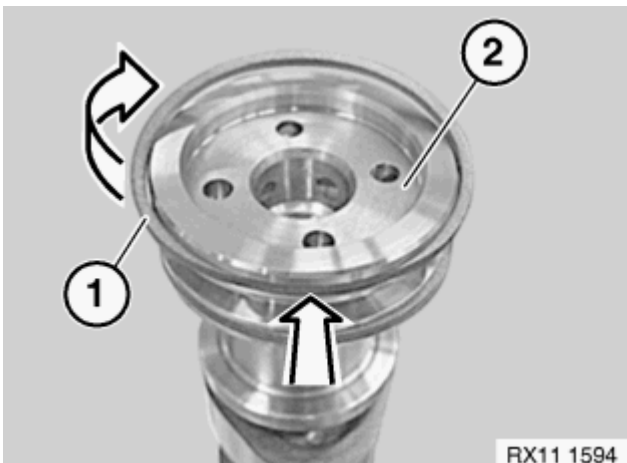

Fig. 431: Installing Plastic Plain Rectangular Compression Ring
Insert plastic rectangular compression ring (1) into groove of exhaust camshaft (2) (see arrow in **Fig. 431**). Lightly oil plastic rectangular compression ring (1) and rotate in direction of arrow until compression ring (1) is positioned on the exhaust camshaft.